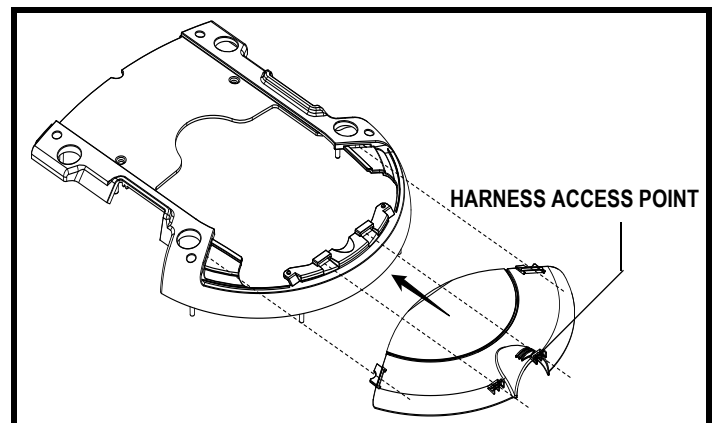

Figure 12. Rear Shroud Assembly
6. Gently push down and pull backward at the harness access point on the rear shroud until it releases. See figure 12.
2. Gently push down and pull backward at the harness access point on the rear shroud until it releases. See figure 12.